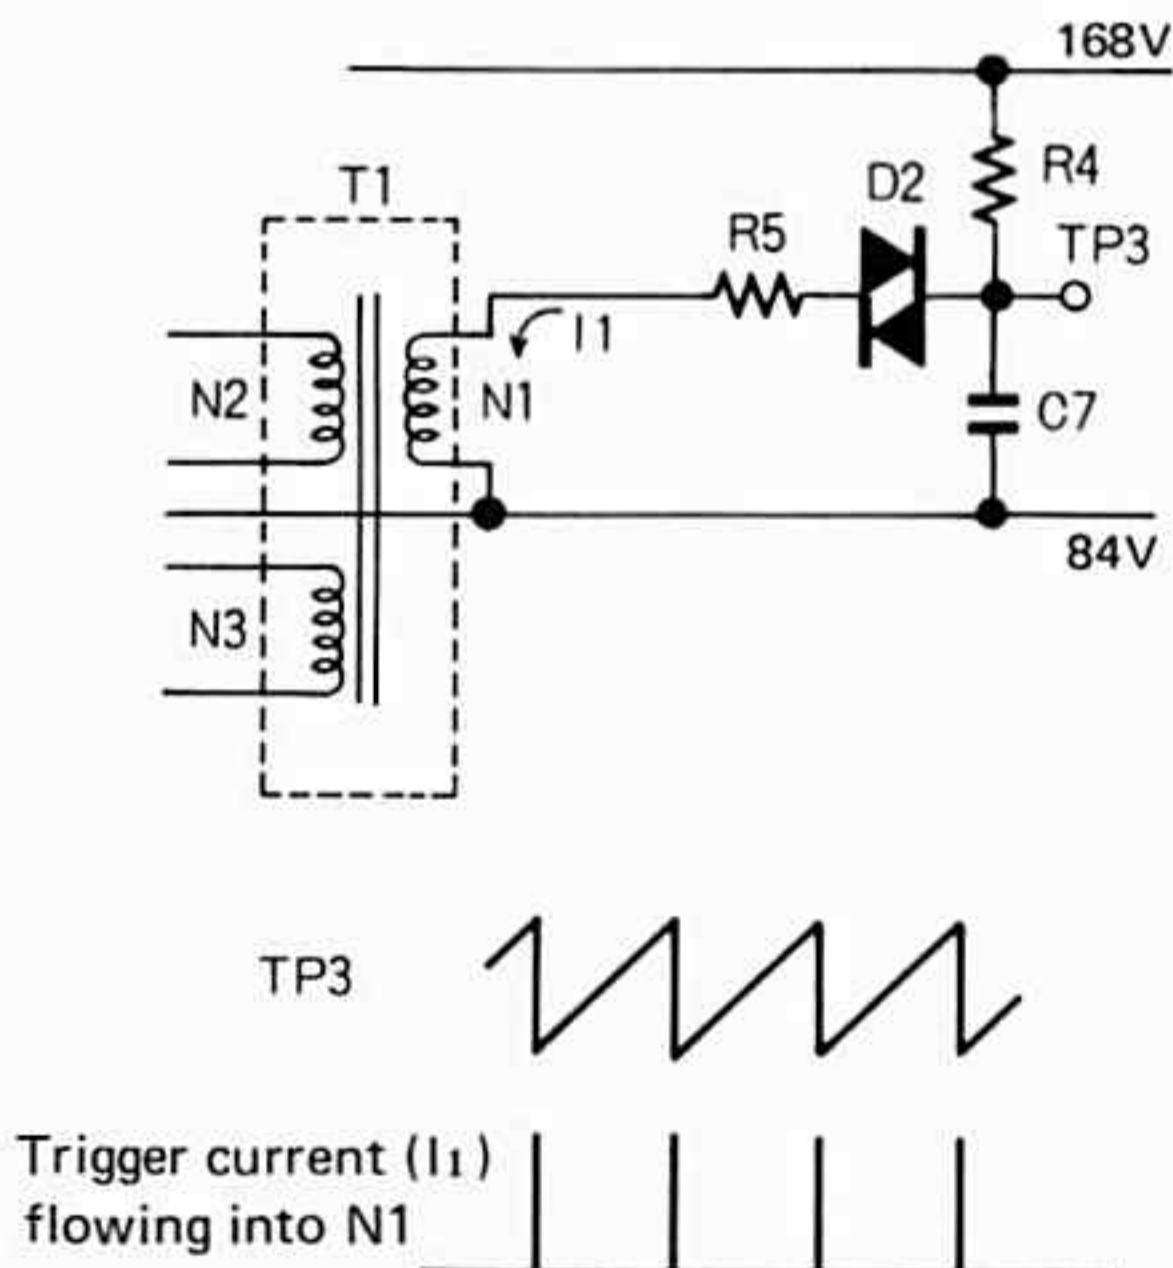

Fig. 15
1. With power supply turned ON, C7 is charged through R4. When the charged voltage becomes high enough to turn on trigger diode D2, current (I_1) flows through R5. Then, C7 is discharged and, therefore, it is again charged through R4. As the operations are repeated, trigger current flows into N1 as shown in Fig. 15.